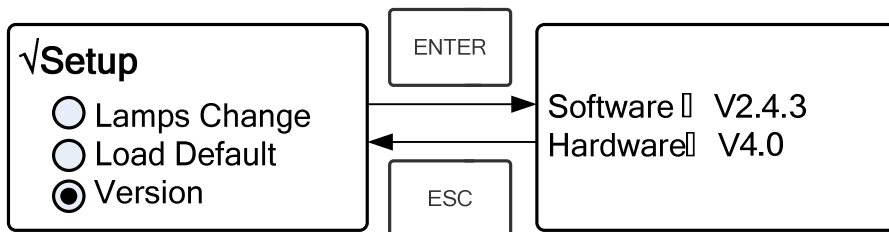

Fig. 4-33
see the version of the software and hardware. (Fig.4-33). Press  to return.
*Note: For the reason of updating, the Version you see on the instrument may be different from the one listed in Fig.4-33.*